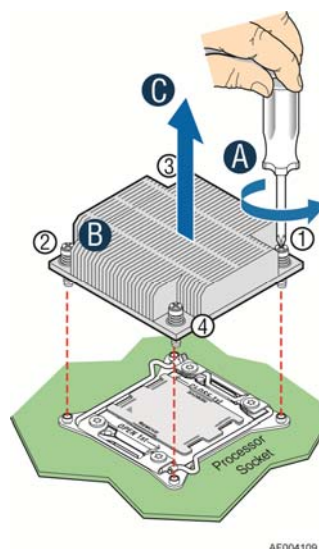

Figure 31. Removing Processor Heatsink
1. Remove the processor heatsink, see Figure 31.